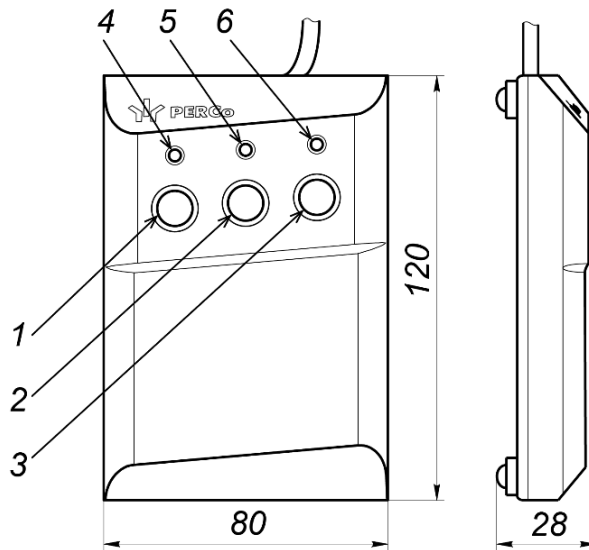
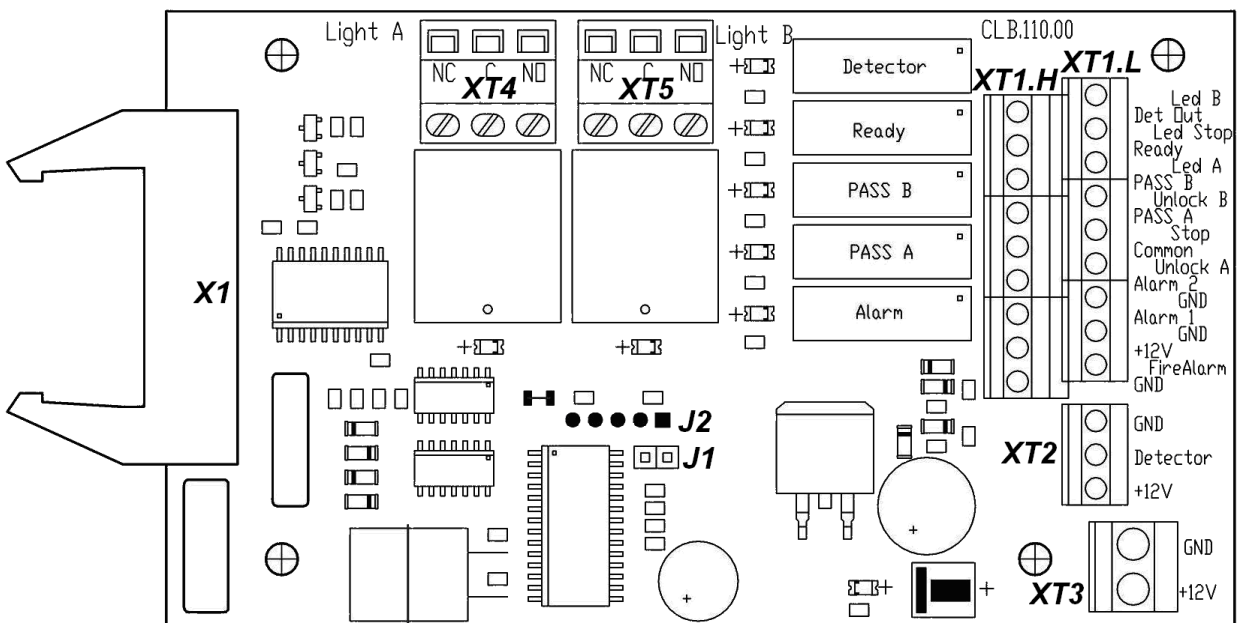
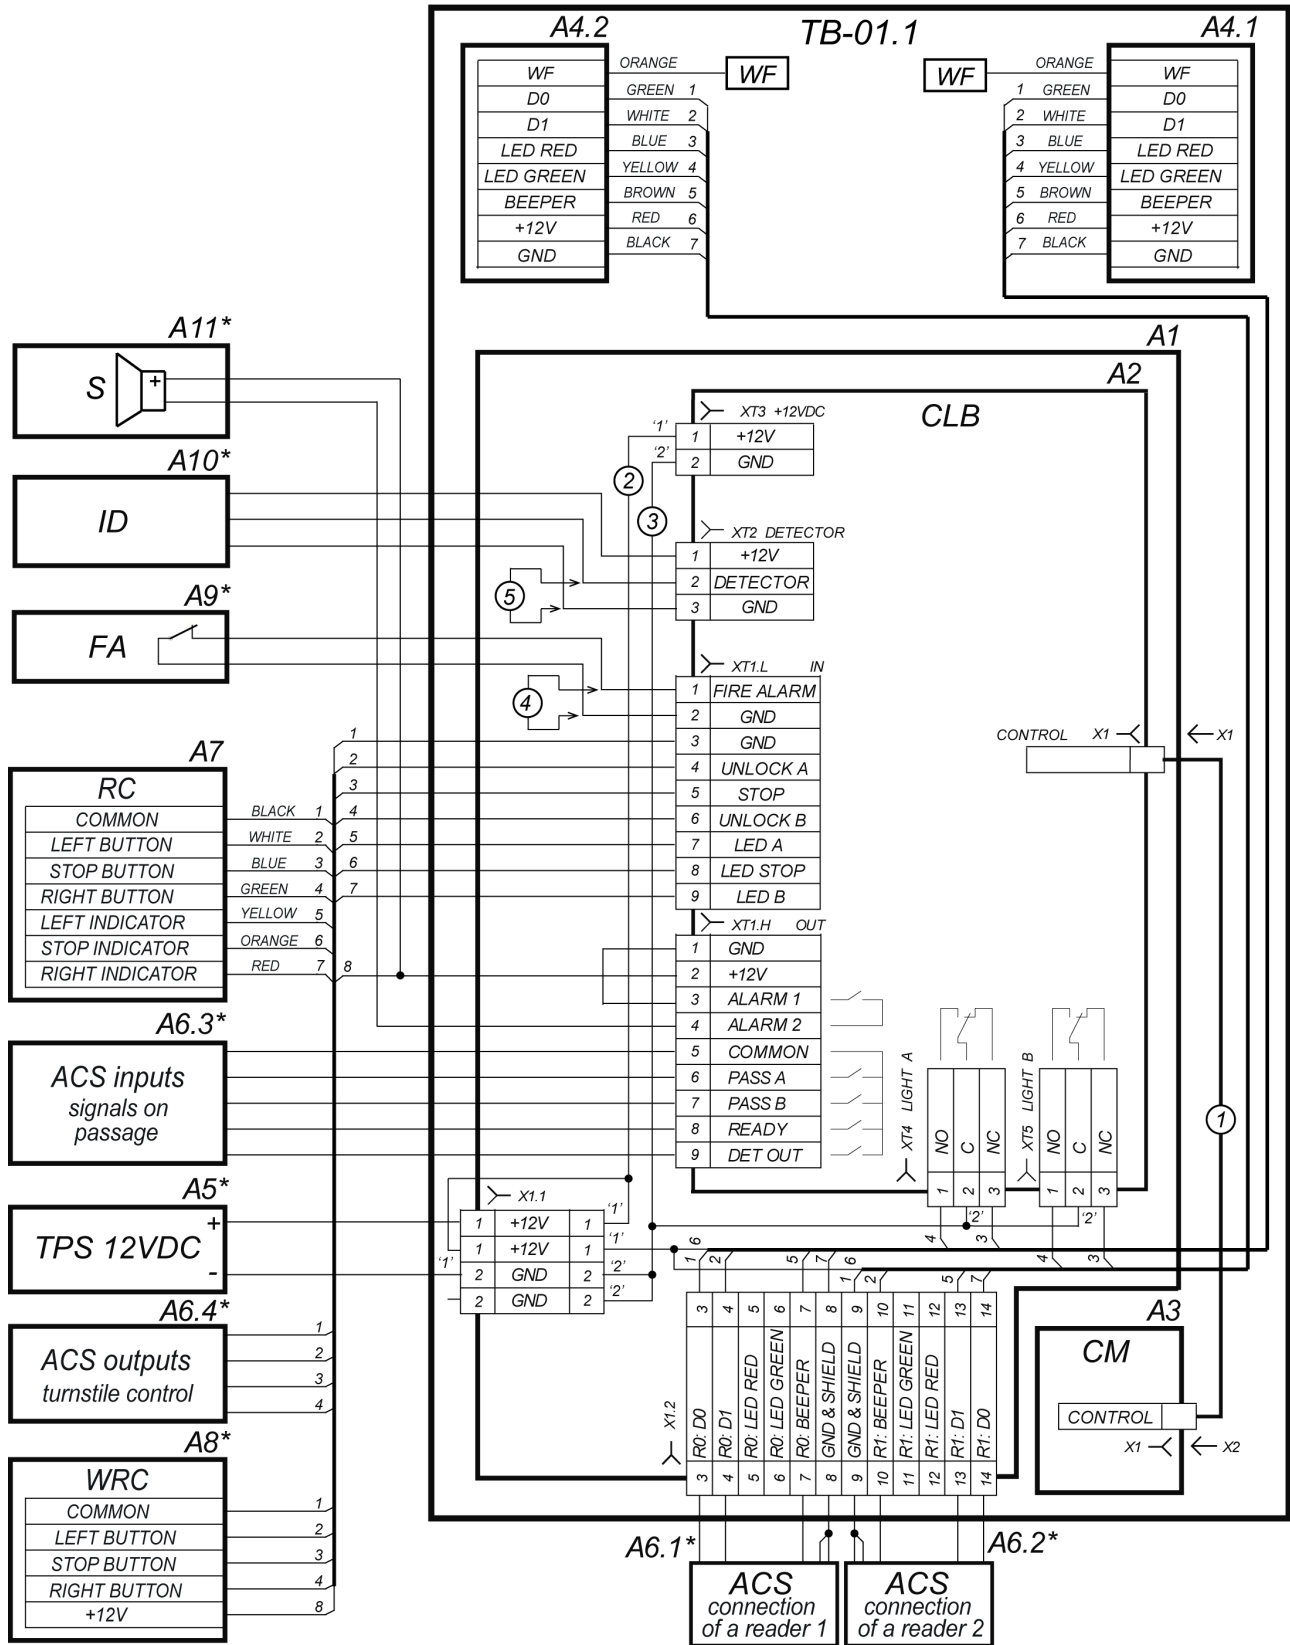

Fig. 4. RC-panel overall view
Fig. 5. The CLB
Fig. 10. Connection layout of the TB-01.1 turnstile and optional equipment ¹
The RC-panel is designed as a small desktop device with a shock-proof ABS plastic case and is intended for setting and indicating operating modes when the turnstile is operated manually. The RC-panel is connected to the CLB with a flexible multicore cable (13) via a **XT1.L** connector block (Ref. Fig. 5). The RC-panel overall view is shown in Fig. 4.
The front of the RC-panel houses three control buttons with LED indicators above to set passage modes of the turnstile. The “STOP” button in the middle serves for setting the “Always locked” operating mode, the right and left buttons – for unlocking the turnstile in a chosen direction. The RC-panel orientation towards the turnstile (if an operator’s terminal is placed at the backside of the turnstile housing) can be changed by swopping wires of the RC-panel connected to the contacts: *Unlock A* and *Unlock B* respectively, as well as *Led A* and *Led B* respectively (Ref. Fig. 5 and Fig. 10).
The CLB is shown in Fig. 5:
The relays “PASS A” (contacts *PASS A* and *Common*), “PASS B” (contacts *PASS B* and *Common*), “Ready” (contacts *Ready* and *Common*), “Detector” (contacts *Det Out* and *Common*) and “Alarm” (contacts *Alarm 1* and *Alarm 2*) have normally open contacts. The “Common” contact, common contact for the relays, at that, is not connected to the negative terminal of the turnstile power supply. In the initial (inactive) state, when the power is on, the relay contacts “PASS A”, “PASS B”, “Ready” and “Detector” are closed (voltage is supplied to the relay coil) and the “Alarm” relay contacts are open (voltage is not supplied to the relay coil). Opening/closing of “PASS A”, “PASS B”, “Ready”, “Detector” and “Alarm” relays is indicated by lighting/going out of red indicators located near the corresponding relays (Fig. 5).
Pin assignment of the CLB connector blocks are given in Fig. 5 and on a label located on the inner surface of the turnstile top cover.
The control mode is set by the jumper on a **J1** connector (the **J1** connector location is shown in Fig 5: the jumper is installed – the pulse control mode, the jumper is not installed – the potential control mode). The jumper is installed at delivery.
The intrusion detector is connected to the **XT2** connector block, and the siren is connected to the **XT1.H** connector block of the CLB according to the connection layout (Fig. 10 and Fig. 5). The intrusion detector should have normally closed contacts.
A signal on current status of the intrusion detector is constantly transmitted to the *Det Out* and *Common* contacts of the CLB **XT1.H** connector block (Fig. 5).
The emergency unblocking device is connected to the **XT1.L** connector block of the CLB in accordance with the connection layout (Fig.10 and Fig. 5). If the *Fire Alarm* input is not used, it is necessary to install a jumper between the contacts *Fire Alarm* and *GND*. This jumper is installed at delivery.
- 4 Remove the turnstile housing side covers (10), by unlocking the locks (11).
- 7 Remove the turnstile housing top cover (3) by unlocking the lock with a key (4, ref. Section 6).
- 8 Connect the power cable (14) to a connector block **X1.1** (Ref. Fig. 10). Connect the cable (13) of the RC-panel to a connector block **XT1.L** on the CLB (Fig. 5). Connect cables of other devices, when used, to corresponding connector blocks of the CLB (Ref. Fig. 5 and Fig. 10).
- 9 Check serviceability and accuracy of all the electrical connections. Fix the cables using self-adhesive cable tie mounts and nylon cable ties supplied with a standard delivery set. After all cables are connected and the turnstile housing is fixed to the floor return the top cover (3) to its place (Ref. Section 6) and the turnstile housing side covers (10) in order reverse to their removing.
- 10 To mount the barrier arms into the run position remove the cover (6) from the hub after unscrewing the screw M4×25. Unscrew the M8×30 bolt on the barrier arm (5). Fit the barrier arm into the mounting hole on the hub and fasten it with the bolt. Put a spring washer under the bolt head. The bolts must be tightened so as to ensure reliable non-play fixation of the barrier arms.
- 11 Repeat the above-described procedure for fitting up the remaining barrier arms. Put the cover (6) in its operation position and fix it with the screw.
The ACS controller is connected to the control board of the turnstile in accordance with Fig. 10.
The readers are connected to an ACS controller with a shielded cable in accordance with Fig. 10.